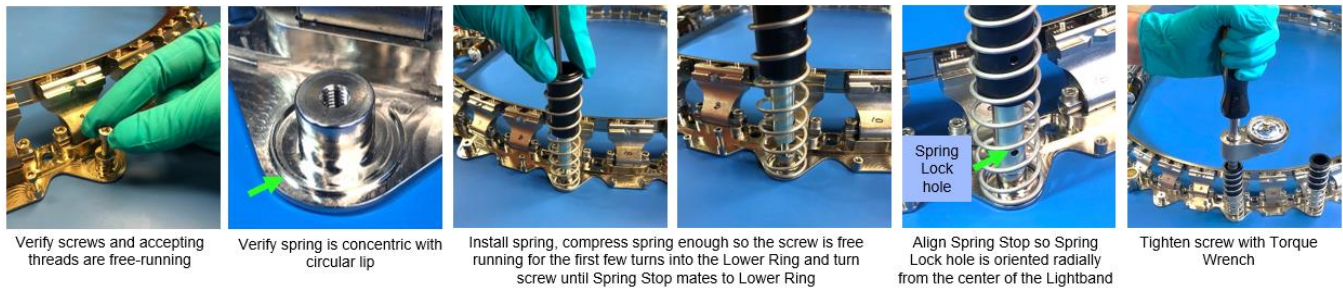

Figure 8-3: Attaching Separation Springs
8.1.1	Determine the desired locations of Springs. See 2003336 Advanced Lightband User's Manual for energy and rotation rate considerations. Figure 8-3 shows steps for attaching Separation Springs.